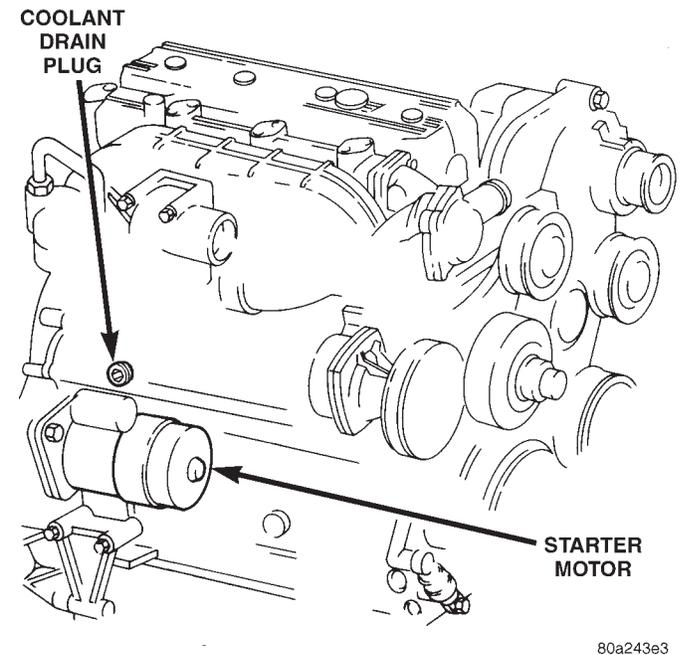

Fig. 12 Cylinder Block Drain-Plug
(3) If the complete cooling system must be drained, raise the vehicle and remove the cylinder block drain-plug (Fig. 12). This hex-headed plug is located on the right/rear side of the engine above the starter motor.